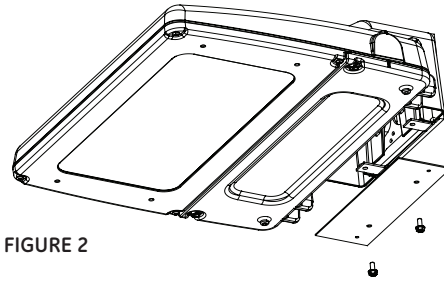

FIGURE 2
- Remove the back Mounting Bracket by loosening the screws on the bottom of the unit and sliding the Mounting Bracket up and out of the slots and removing the electrical coverplate. (see Figure 2).